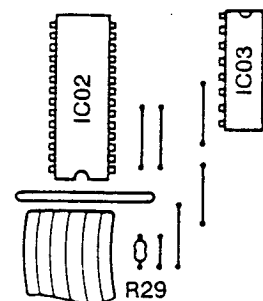

Fig. 6
3. If the groove is not traced correctly, cut off R29 (3.3kΩ) on the Control P.C.Board and re-check the tracing. (Fig. 6)